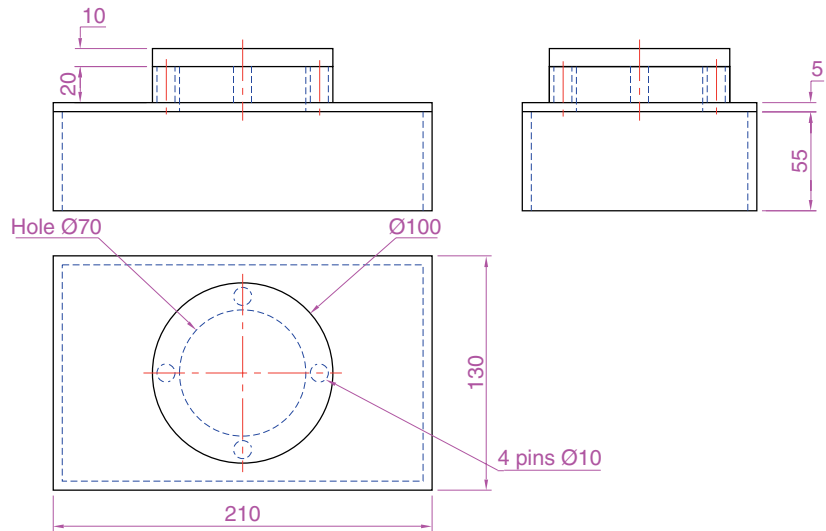

Fig. 15.26 First example – Section – orthographic projection
1. Construct a 3D model to the information given in Fig. 15.26 on layers of different colours. Note there are three objects in the model – a box, a lid and a cap.